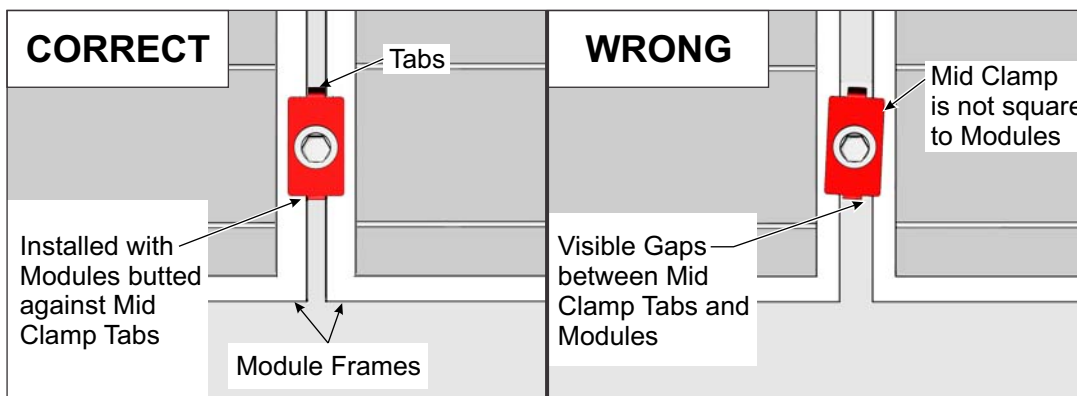

Figure 12-6: Correct and Wrong methods of installing Standard Mid Clamp
- E. Install one Mid Clamp on each of the 5/16" bolts that are between each of the interior PV Modules. Be sure that the tabs of the Mid Clamp rest between the two Modules and the Modules are butted up against the Mid Clamp tabs (see figure 12-6). Secure each of the Mid Clamps with a 5/16" flange nut. **Torque Mid Clamps to 14-16 ft.-lbs.** (See Figures 12-6 and 12-7)